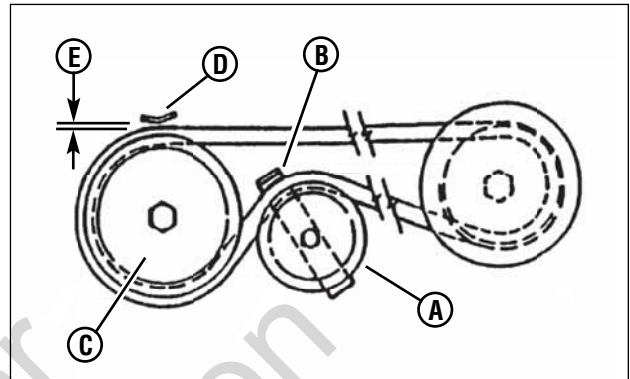

Figure 45: Belt routing for 28 and 30 inch decks
7. Remove the idler (A, Figures 45 and 46).
8. Route the belt onto the spindle pulley (C). Make sure the belt is inside the spindle belt guide (D) and the idler belt guide (B). Route the belt as shown.
10. Adjust the belt guide to allow 1/16" belt-to-belt guide clearance (E).